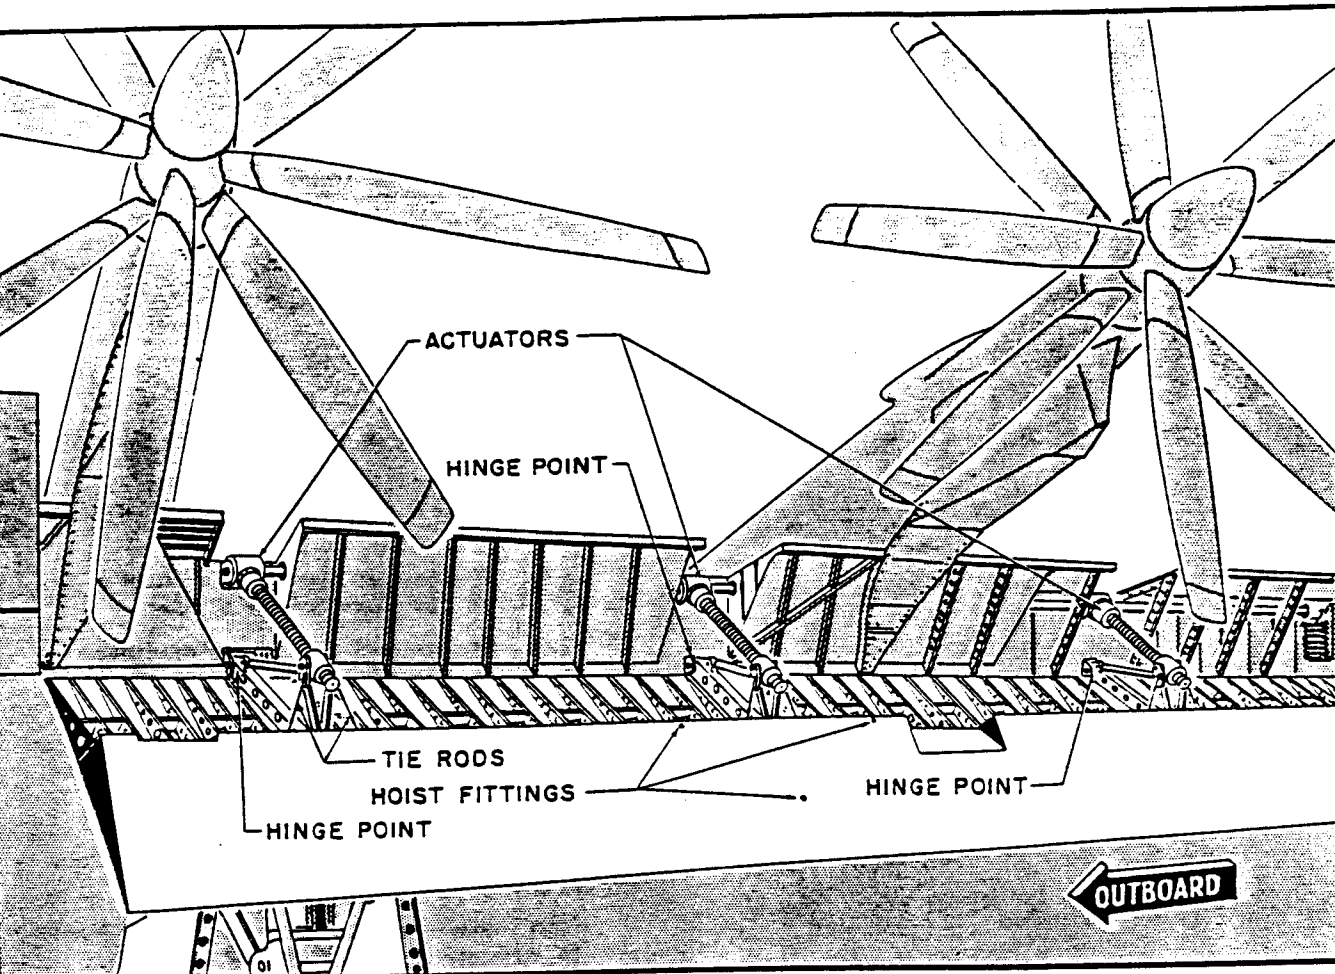

Figure 2. Landing Flap Installed
b. LANDING FLAPS. (See figure 2.)- The landing flaps are hinged to the rear wing spar, extending from each side of the crew nacelle to the outboard propeller housings.
(1) REMOVAL.- Each landing flap weighs approximately 225 lbs. Three nut plates are provided near the center of each flap. Eye bolts may be installed in these nut plates for hoisting the flaps.
(2) INSTALLATION. (See figures 2 and 3.) Reverse the removal procedure to install a flap. In addition, tighten the tie rods at the actuators to 20-25 inch-pounds and safety the turnbuckles, after the flap is installed.